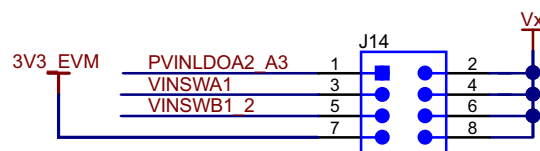

Figure 4. Jumper to V_x Net
- Step 8. The floating V_x net is provided on the BOOSTXL-TPS650861 board to supply PVINLDOA2_A3, PVINSWA1, and PVINSWB1_2 with power. This is done using jumper J14 as shown in Figure 4. For example, for simple testing if the PG level for SWA1, SWB1, and SWB2 are all set to 3.3V, then the 3V3_EVM can be shorted to V_x using the provided jumpers, and then PVINLDOA2_A3, PVINSWA1, and PVINSWB1_2 can all be shorted to V_x as well to provide power for all five outputs. If SWA1 uses 1.8 V instead, it's jumper to V_x can be removed and a female-to-female wire jumper provided in the kit can be connected to one of the BUCKs supplying 1.8V.